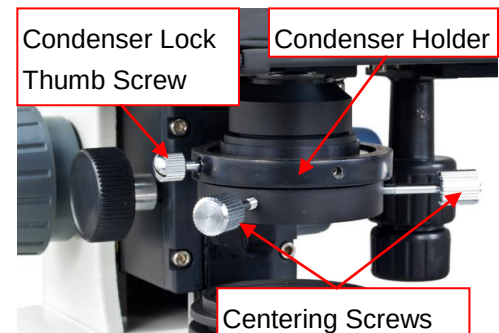

Fig.12
- Install the oil darkfield condensers and tighten the condenser lock thumb screw on the condenser holder (see **Fig. 12**).